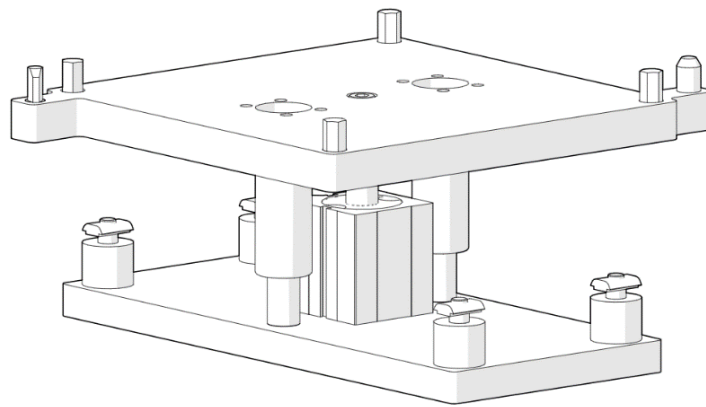

Figure 2: Low-Profile Lift and Locate
Step 1: Loosen all four P-00223 and M8 SHCS as shown in Figures 2 and 3.